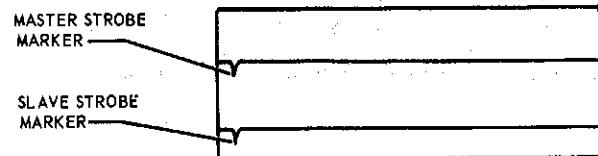

Figure 4-51. Pre-Operational Check Step 9
9. Set FUNCTION switch to position 2 and DELAY switch to OFF. The CRT display should appear as shown in figure 4-51.